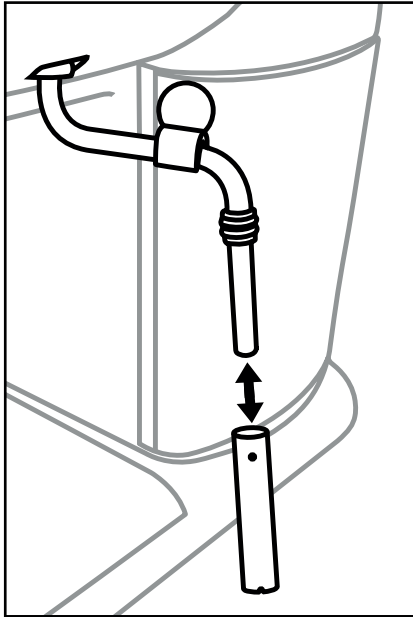

Figure 1
- 1) Place an empty container under the milk frother ⑥.
- 2) Turn the steam control ② to  immediately after use and let the steam escape for a few seconds.
- 3) Close the steam control ② (turn it towards "0" as far as it will go), switch the appliance off and remove the plug from the mains power socket.
- 5) Pull the casing of the milk frother ⑥ off (Figure 1) and clean it thoroughly in warm water.
- 7) Push the casing back onto the nozzle (Figure 1).